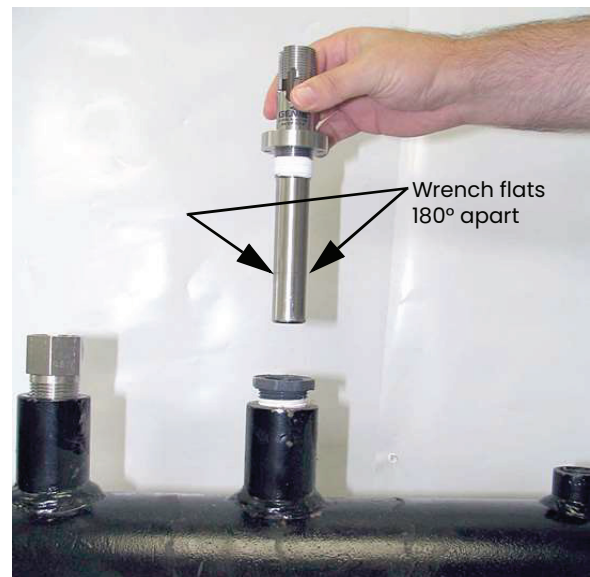

Figure 13: Tightening the housing
3. Using a wrench on the wrench flats, turn the housing until it is secure and sealed (see *Figure 13* below). This will require between three and five turns. **Do not overtighten!** The housing may be damaged if it is over-tightened, causing the housing to deform.